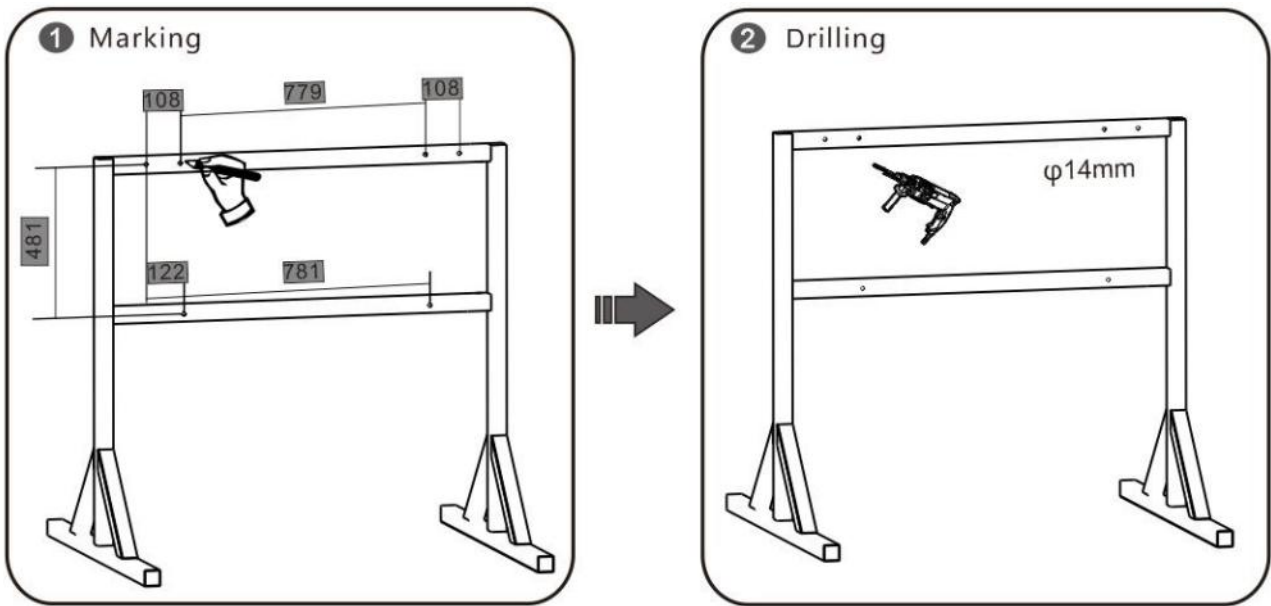

Figure 2-7 Marking and drilling
Step 1 Determine the punching position according to the inverter installation size diagram shown in Figure 2-7, measure the size with a horizontal ruler, and mark the punching position with a marker pen.